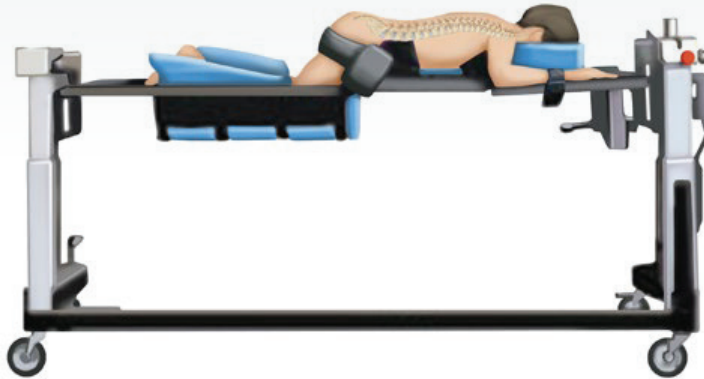

Figure 1
- Place the patient in the prone or knee-chest position on a radiolucent operating table. Adjust the table (as needed) so that the c-arm provides true A/P images when at 90° and true lateral images at 0° (Figure 1).